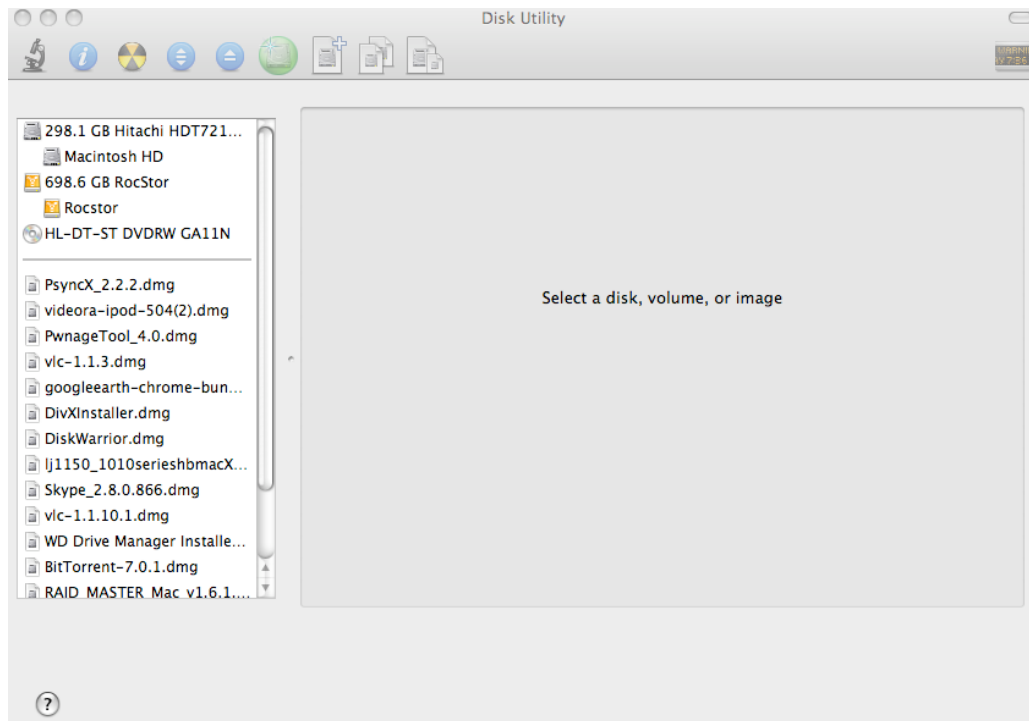

Figure 5.0
7. On the left side of the “**Disk Utility**” menu is a list of available drives (figure 5.0.) One will show as Rocstor drive. Click on the icon showing the disk capacity.